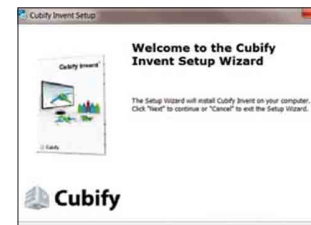

Fig. 48
2. Follow the instructions. (Fig. 48)